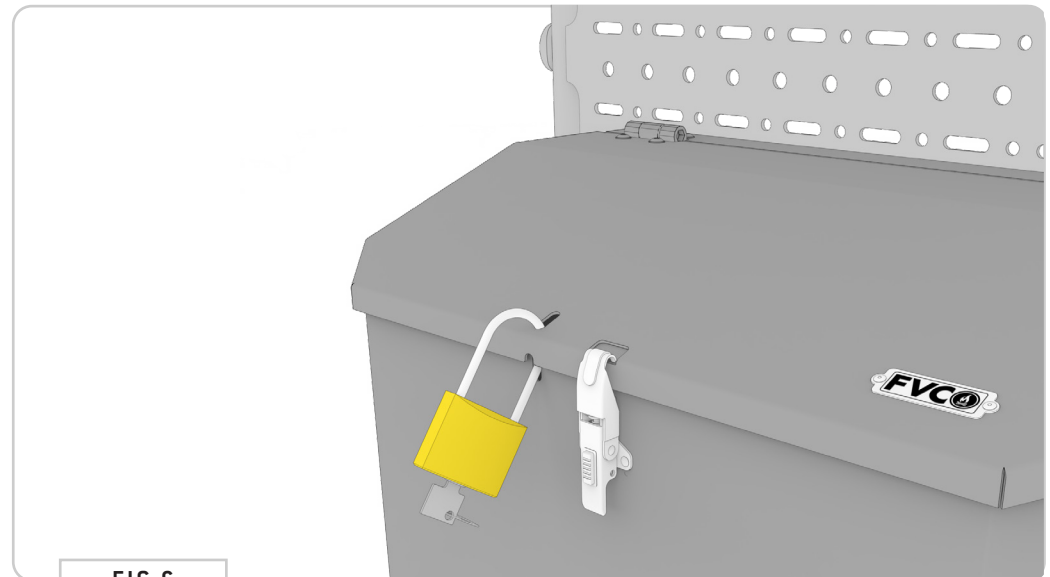

FIG 6
3.2 The **Gear Box** features a cut-out that allows the user to attach a padlock for added security (**FIG 6**).